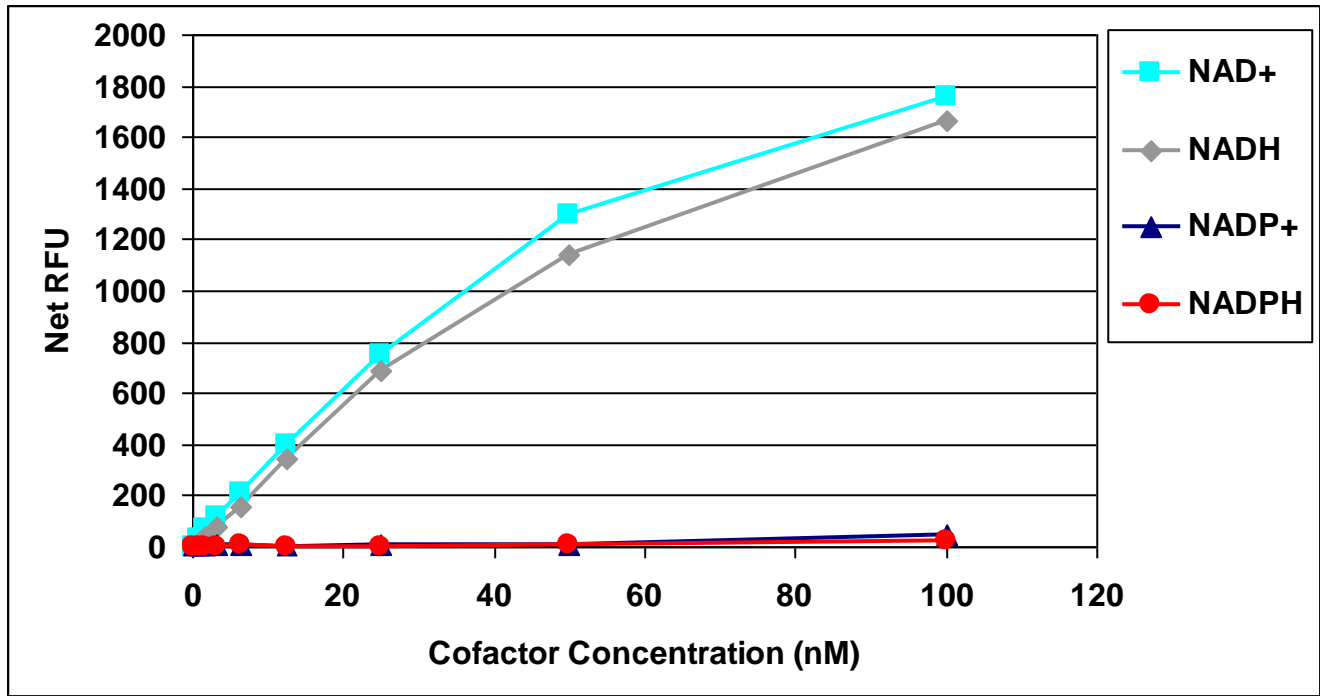

Figure 2: NAD⁺ Standard Curve and Specificity of Assay for NAD⁺ and NADH. NAD⁺, NADH, NADP⁺, and NADPH were tested in the NAD⁺/NADH Assay Kit.
2. Plot the corrected fluorescence for the NAD⁺ standards against the final concentration of the standards from Table 1 to determine the best slope (nM⁻¹). See Figure 2 for an example standard curve.